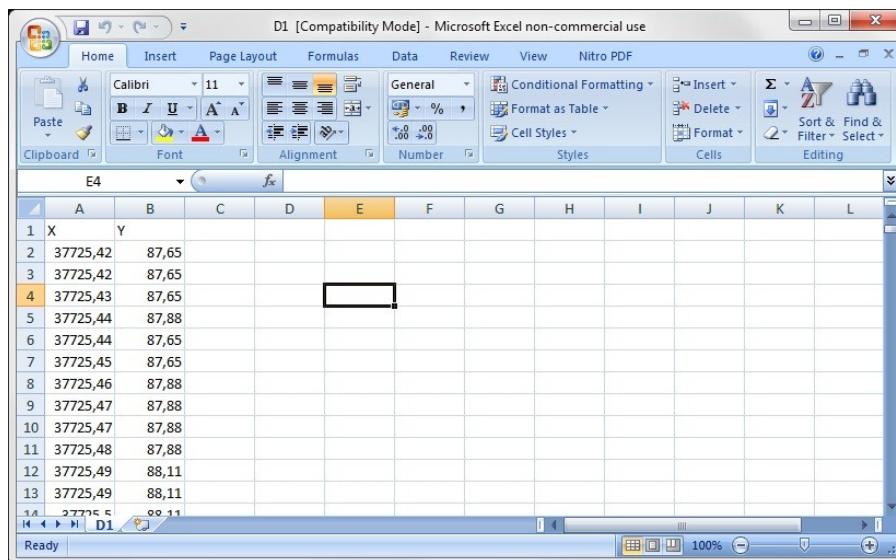

Figure 14.5 Excel
- Excel (.xls) (see figure 14.5). Note that there is a 65.534 row limit